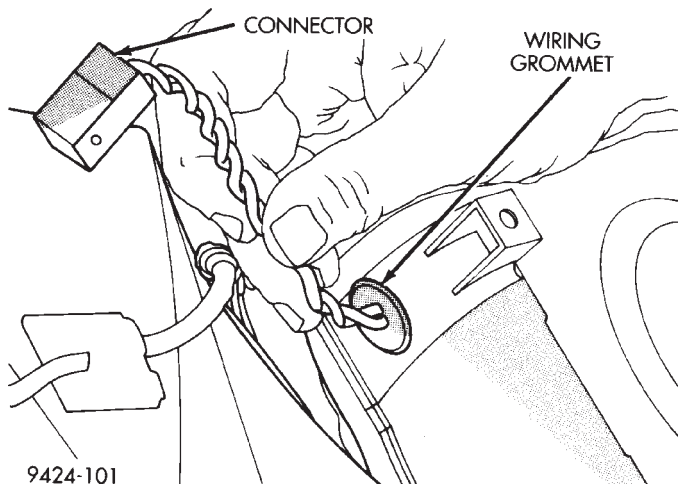

Fig. 92 Blower Wiring Grommet
(19) Seat blower motor wiring grommet at blower motor cover (Fig. 92).